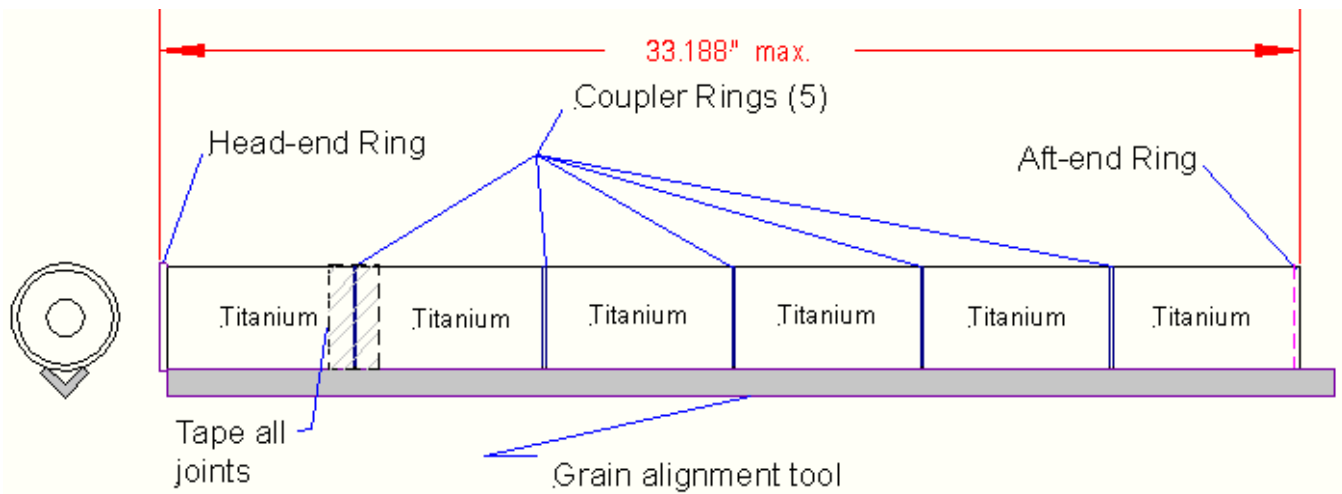

Figure 3 – Assembling grains for Aft Chamber
2. Place two grain segments onto Grain Alignment Tool (T5), per Figure 3.
8. Repeat steps 3-7 for mating the remaining 4 segments, per Figure 3
10. Measure overall length of grain assembly (ref. Fig.3). Maximum permissible length is 33.188”. If length is greater than this, trim tubing off of aft end.